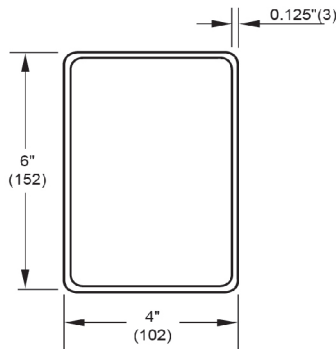
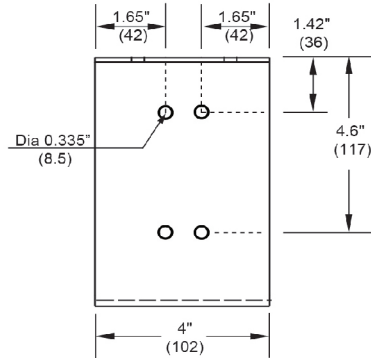

Figure 1: Mullion Tube
Figure 3: Shelf Bracket
Fabricate mullion tubes from 6" x 4" x 1/8" thick (152 x 102 x 3) hot rolled steel tubing (Construction Fig 1). Size mullion tube to be a $2 \pm 1/2$ " (51 ± 13) shorter than the height of the rough opening. Fabricate two mullion support brackets per each mullion tube from 10 gauge (3.5) galvanized steel (Construction Details Fig 2). The brackets are to be assembled from one shelf bracket and from two support angles (See Construction Details Fig 3 & 4). The shelf bracket and support angles must be bolted together with minimum 5/16" x 1" (M8 x 25) diameter zinc plated or stainless steel carriage bolts to create the mullion support bracket. The mullion tube must overlap each support bracket by a minimum of 6" (152) (See Detail B-B).